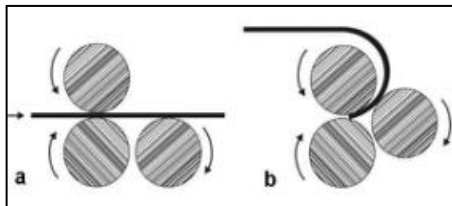

Figure 14
3. Operate handle; when the material reaches the point where the radius is to begin (a, Figure 14), stop the machine and raise the idle roll an equal amount on each end to achieve desired bend.
- Restart rolls and continue until bend is completed (b, Figure 14). Support workpiece as it exits machine.